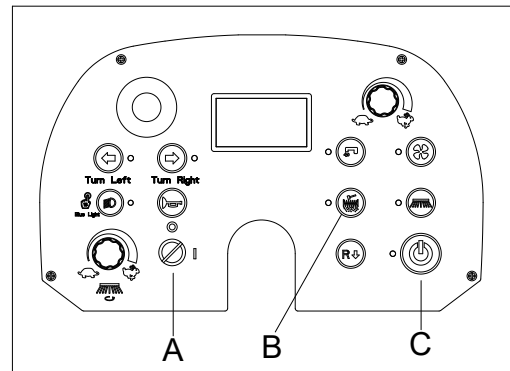

Figure 16
8. Press one-button start button (C, Figure 16) to turn off all functions (vacuum, main/side brooms and pump), and then main broom and side brooms will be lifted.
9. Press filter shaker button to turn on the filter shaker (B, Figure 16)
11. Turn the ignition key (A, Figure 16) to “O” and remove it.